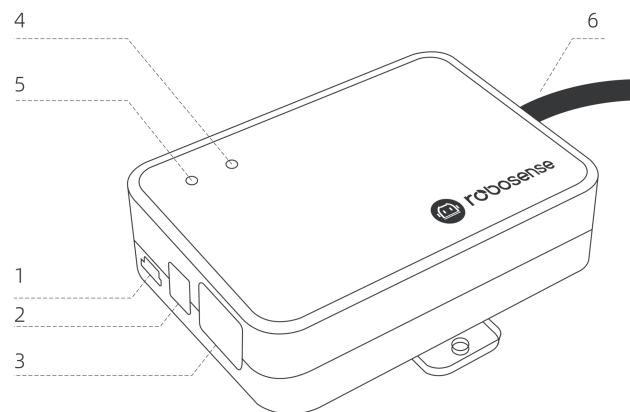

Figure 11 Interface Box Schematic
The Helios 32 accessory interface box is equipped with status indicator lights and various interfaces, as shown in Figure 11 . It can be connected to power input, RJ45 Ethernet port, and GPS input cable (the cable length for the aviation plug version of the interface box is 3 meters; for other cable length requirements, please contact Robosense).
- c) After powering on, under normal working conditions, the red and green power indicator lights on the LiDAR's Interface Box will be constantly on. The positions of the indicator lights are shown in Figure 11 .